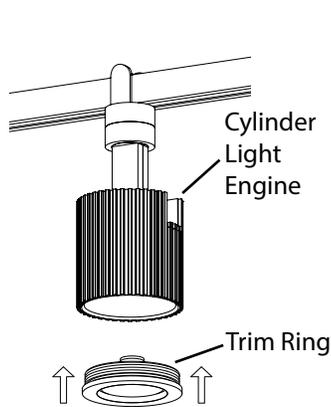

Fig. 30
1. Insert the **Trim Ring** into the **Shade**. (Fig. 30)